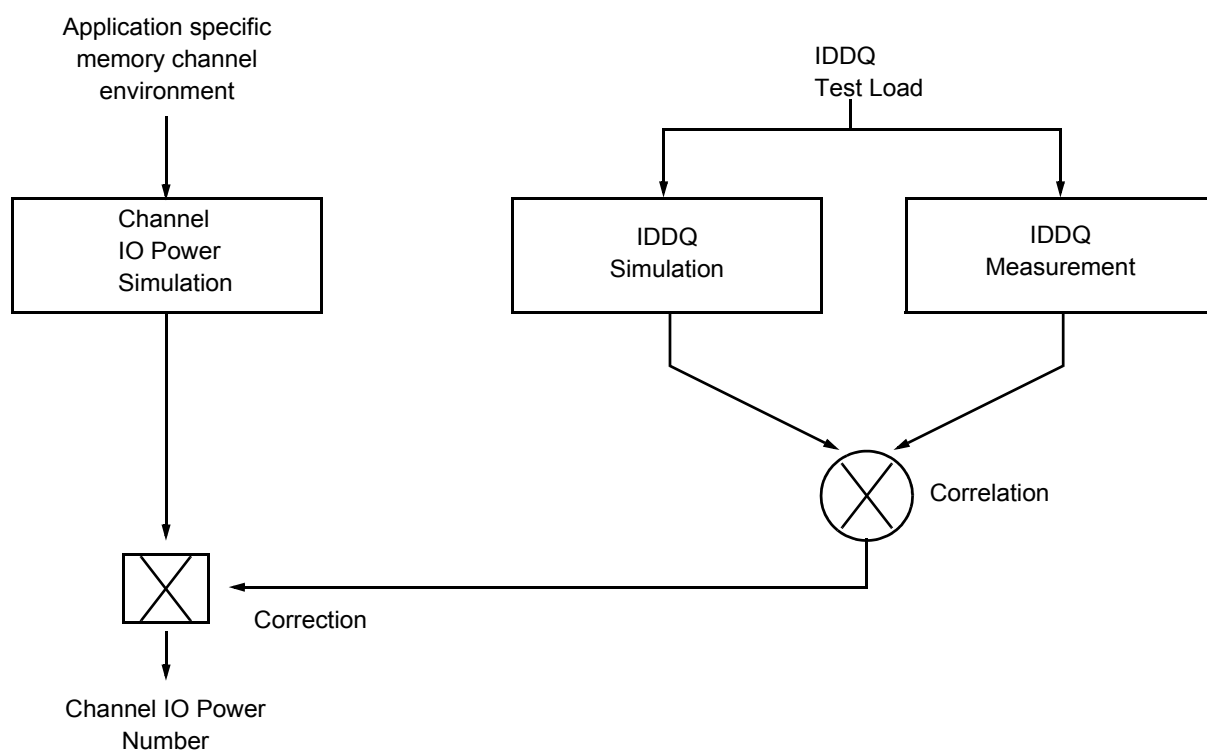

Figure 20. Correlation from simulated Channel IO Power to actual Channel IO Power supported by IDDQ Measurement.
**Attention** : IDDQ values cannot be directly used to calculate IO power of the DDR3 SDRAM. They can be used to support correlation of simulated IO power to actual IO power as outlined in Figure 20. In DRAM module application, IDDQ cannot be measured separately since  $V_{DD}$  and  $V_{DDQ}$  are using one merged-power layer in Module PCB.